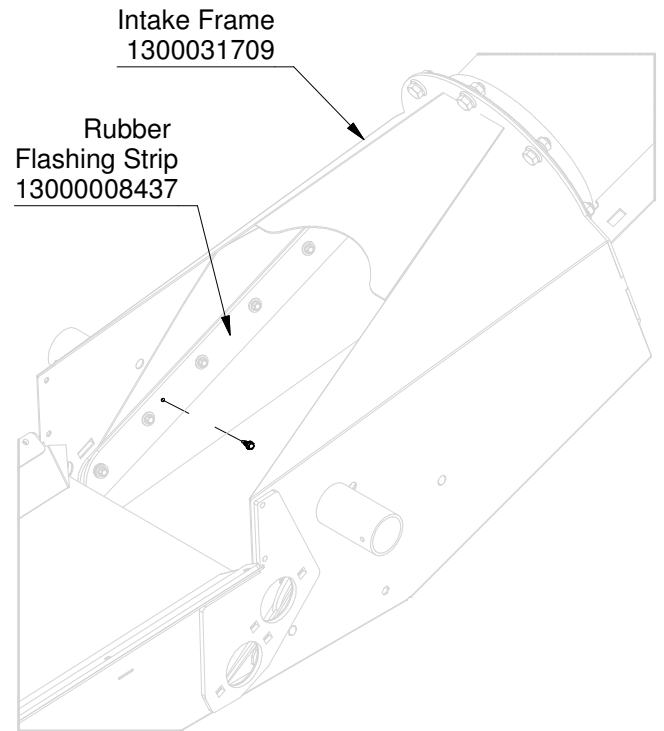

FIGURE 8
8. Once the Rubber Flashing Strips are fastened into place on the Intake Frame Assembly, fasten (2) #12 x 3/4" Self Drilling Screws to the Rubber Flashing Strips as shown in Figure 8. Fasteners can be found in Bolt Bag 13000008440.